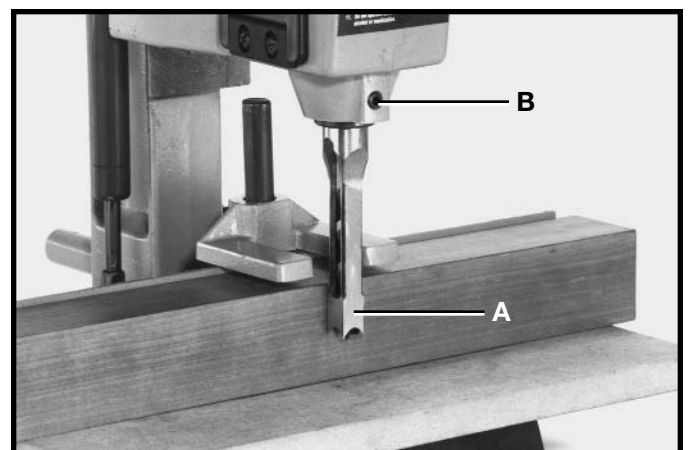

Fig. 31
The chisel (A) Fig. 31, can be adjusted parallel to the workpiece by loosening screw (B) and rotating chisel until the back surface of the chisel is touching workpiece. Then tighten screw (B).